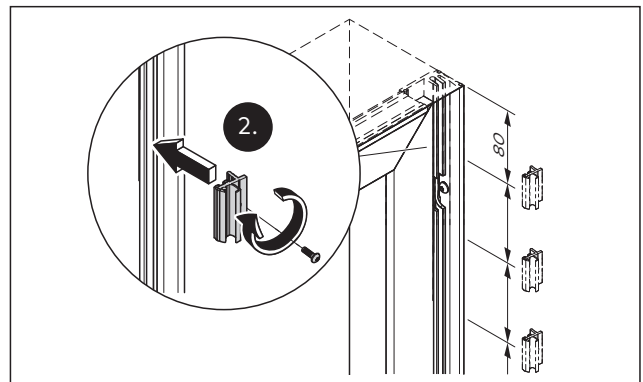

Fig. 24 Fix the fixed glazing adapter
2. Fix the fixed glazing adapters with at least 3 clamping pieces per meter with a torque of 5 Nm (Fig. 24).